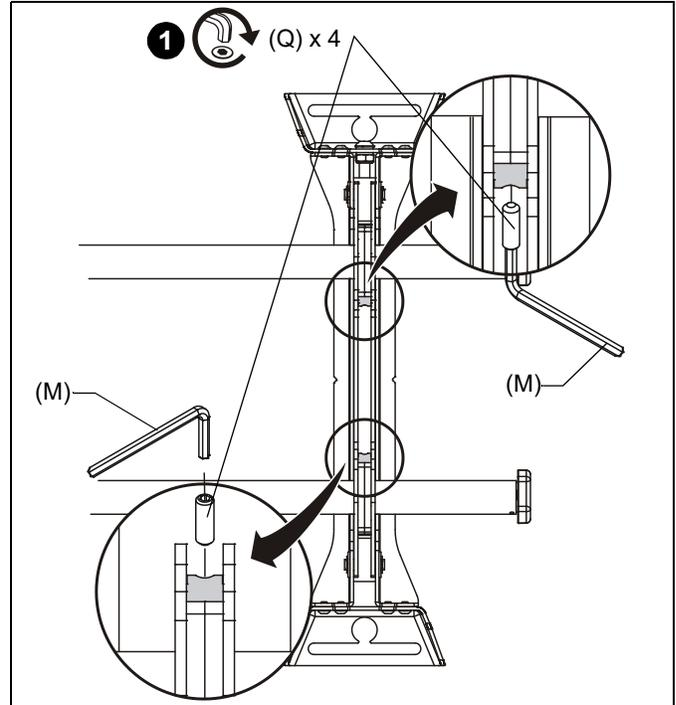

Figure 7
1. Lock rails into place using two 1/4-20 x 3/4" set screws (Q) on mount upright (Z) and the 1/8" hex key (M). (See Figure 7)